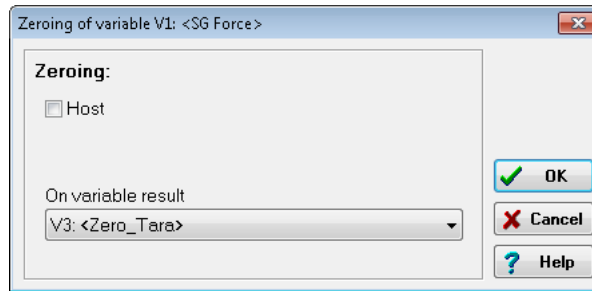

Fig. 5-4 Setting up zero balance or tare.
7. Select the variable created above as the control variable (Fig. 5-4).